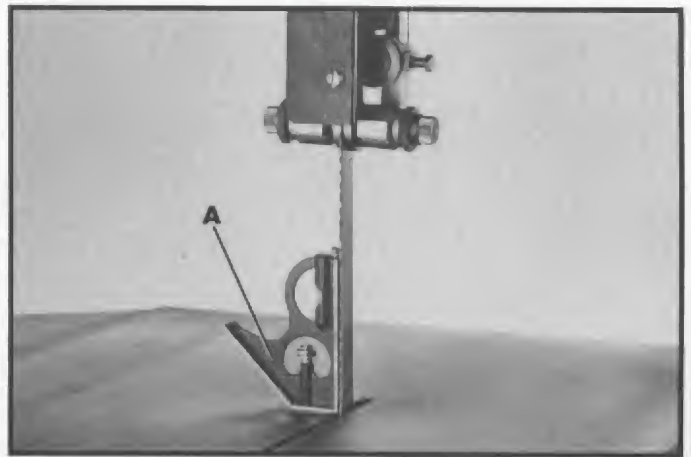

Fig. 20
2. Place a square (A) Fig. 20, on the table with one end of the square against the blade as shown, and check to see if the table is 90 degrees to the blade.